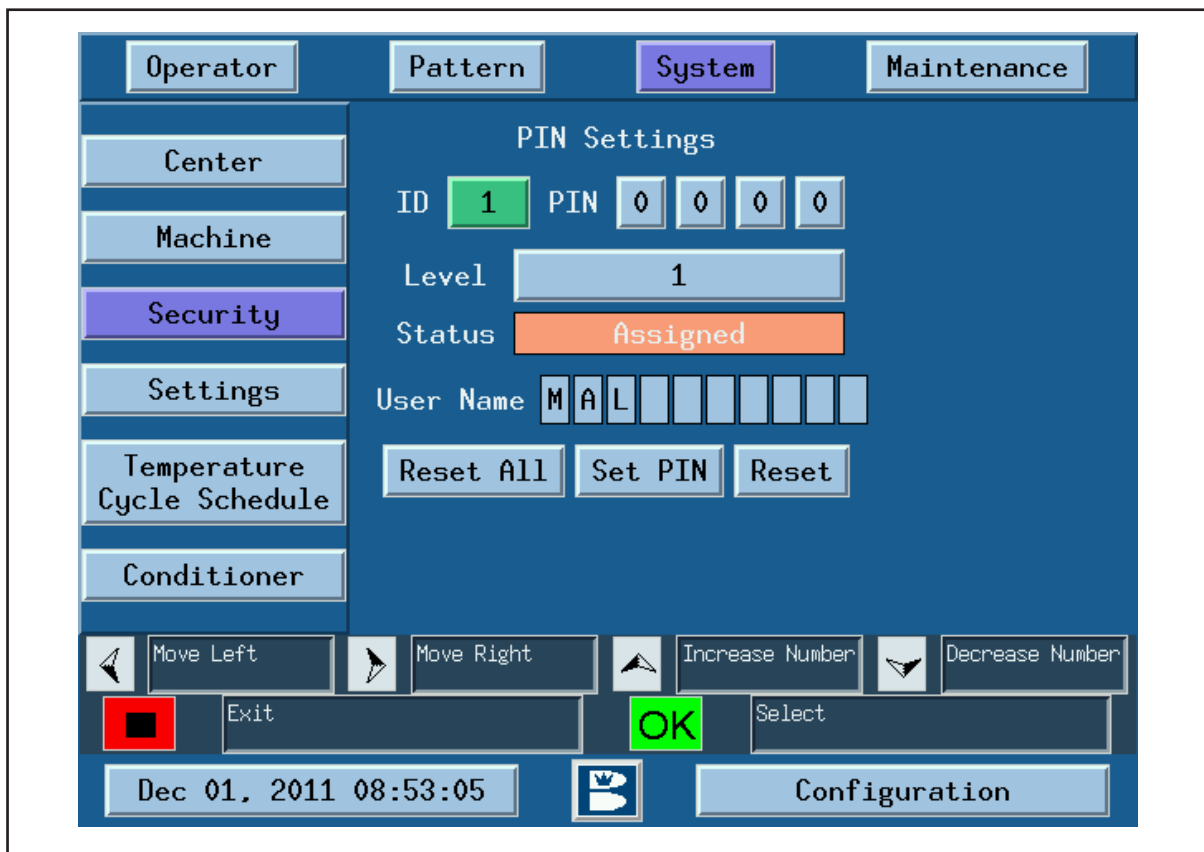

Figure 5-19. System Security
1. Go to the System menu. Refer to Figure 5-19.